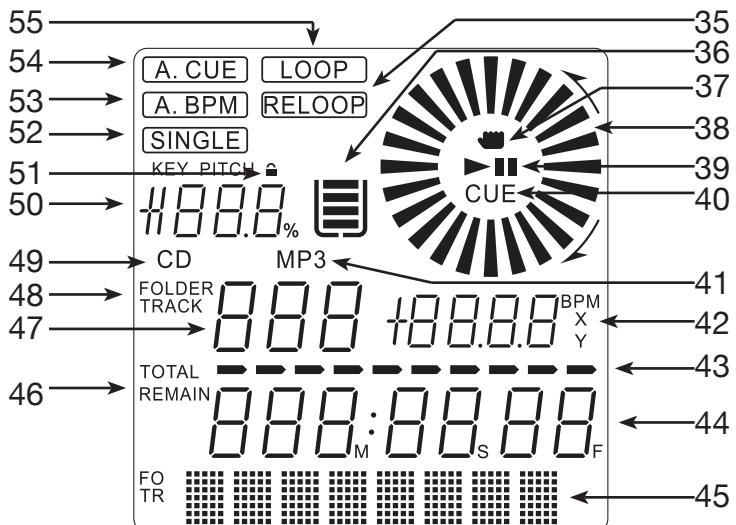

Figure 6
D. LCD DISPLAY PANEL (FIGURE 6)
37. JOG WHEEL TOUCH INDICATOR - A hand icon will appear in the LCD when the touch sensor is triggered. When the JOG WHEEL (14) is set to Scratch Mode touching the JOG WHEEL (14) will hold playback in place.